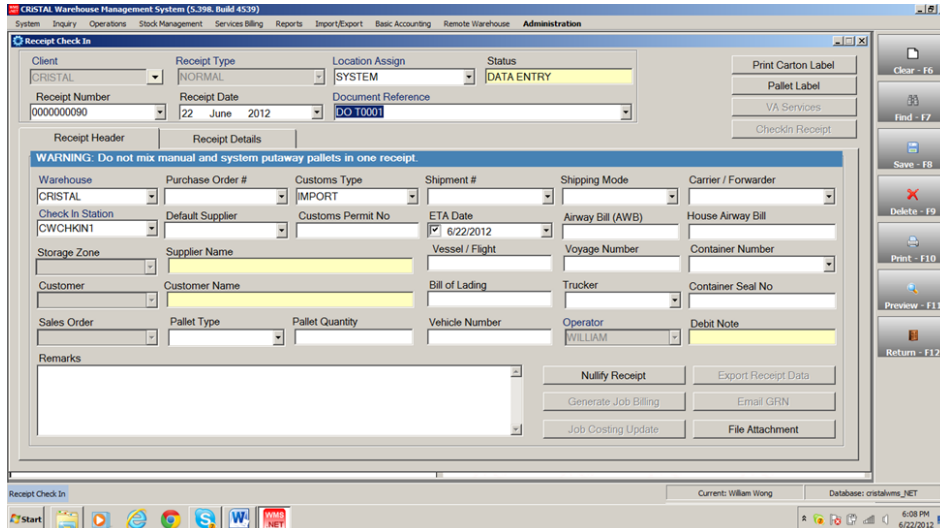

Fig. 1
4.1.1.1. Receipt Header (Fig.1)